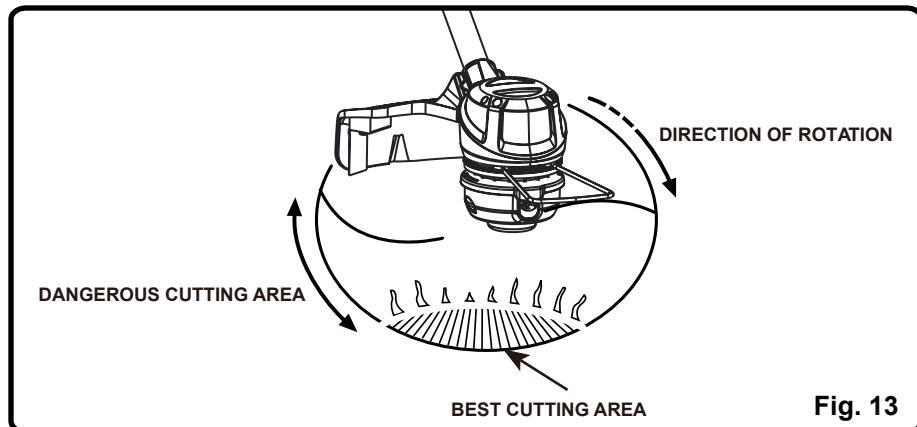

Fig. 13
CUTTING TIPS (See *Figure 13*.)
- The trimmer cuts when passing the unit from right to left. This will avoid throwing debris at the operator. Avoid cutting in the dangerous area shown in figure 13.